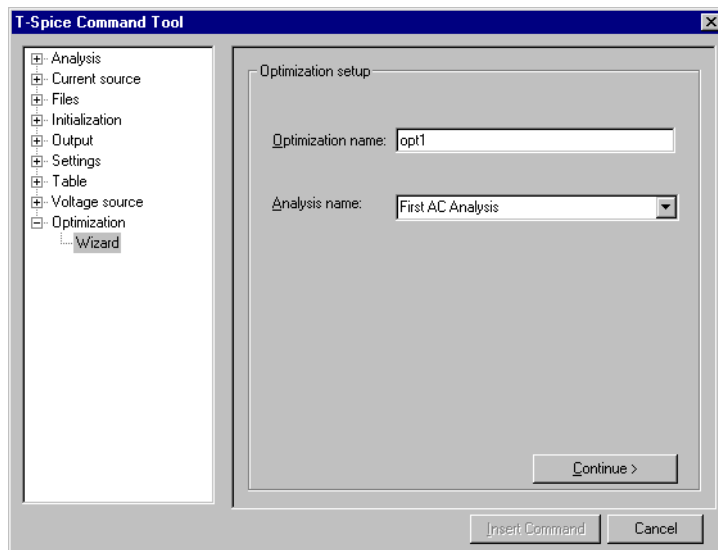

Figure 94: Customizing the optimization setup
- ☑ Enter **opt1** in the **Optimization name** field and type or select **First AC Analysis** as the **Analysis name** (Figure 94).